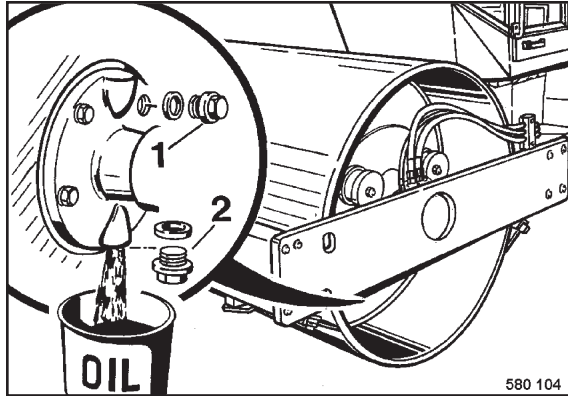

Fig. 135
- Move the drum until the drain plug 2 (Fig. 135) is in lowest position.
- Clean the oil level control plug (1) as well as the drain and filler plug and screw them out.